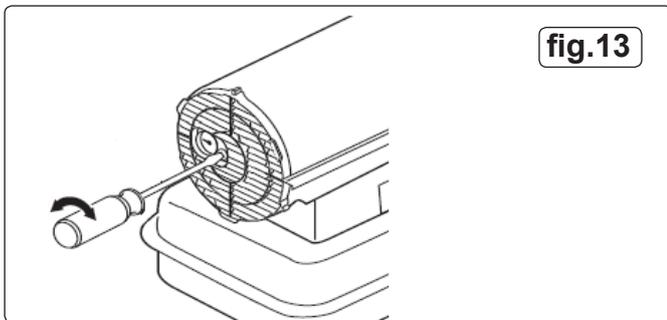

fig.13
7.8 PUMP PRESSURE ADJUSTMENT (See fig.13)
Periodically check the pump pressure by referring to the pressure gauge within the rear grille. If adjustment is required turn the adjusting screw located to the right of the gauge using a slotted screwdriver as shown in fig.13.